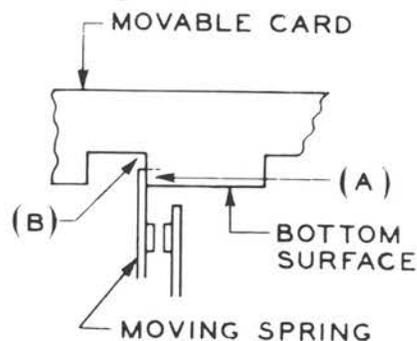
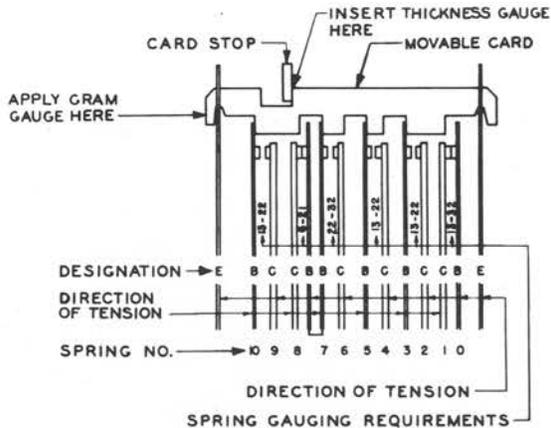

Fig. 30—Clearance Between Moving Springs and Card—Clutch Drive
Fig. 31—Spring Tension and Gauging—Clutch Drive
(a) With the play of the movable card taken up in an upward direction [Fig. 30, (A)], the bifurcated end of each moving spring (designated B in Fig. 31) shall be above the bottom surface of the movable card by
(b) With the play of the movable card taken up in a downward direction [Fig. 30, (B)], the movable card shall not rub on the bifurcated ends of the moving spring during card travel. Gauge by eye. To check the requirement, manually operate the intermittent clutch with a finger applied to the mounting clevis of the antioverthrow pawl.
(a) **Balancing Springs:** (Springs Designated E)—With the control shaft in the neutral position, the combined tension of the balancing springs shall be such that the movable card is held against the right-hand side of the card stop (Fig. 31) with a pressure of
(a) The spring gauging requirements specified in Fig. 31 shall be met. For make and break contacts, the make contacts shall **not** make and the break contacts shall **not** break when a gauge corresponding to the lesser specified value is inserted between the card stop and the movable card; but make contacts shall make and break contacts shall break when a gauge corresponding to the greater specified value is used. Use the KS-6909 and KS-6938 gauges. To check the requirement, visually check the opening and closing of the contacts. The 510C lamp will aid the checking of the requirement.